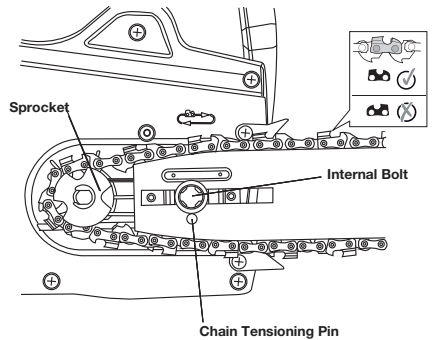

Fig. 21
4. Place the saw chain around the sprocket (Fig. 21) while lining up the slot in the chain bar with the internal bolt at the base of the saw and the chain tensioning pin in the chain bar's pin hole (Fig. 18). The chain tensioning pin may need adjustment to properly align with the hole in the chain bar. Use the chain tensioning wheel to adjust its location until it fits in the chain bar.